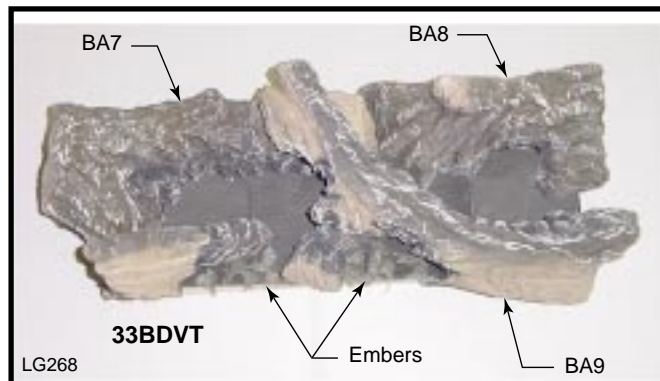

Fig. 36 33BDVT log placement.
Refer to Figure 36.
5. Place the front right log (BA9) in position by resting the hole under the center of this log located over the knob on the branch of the rear front right log, and the front end of this log will also set against the back wall of the deflector. (Fig. 36)
6. Scatter the ember material over the front area of the burner housing assembly. (Fig. 36) Do not pack this material tightly, separate it when unpacked and keep it in a loose condition.